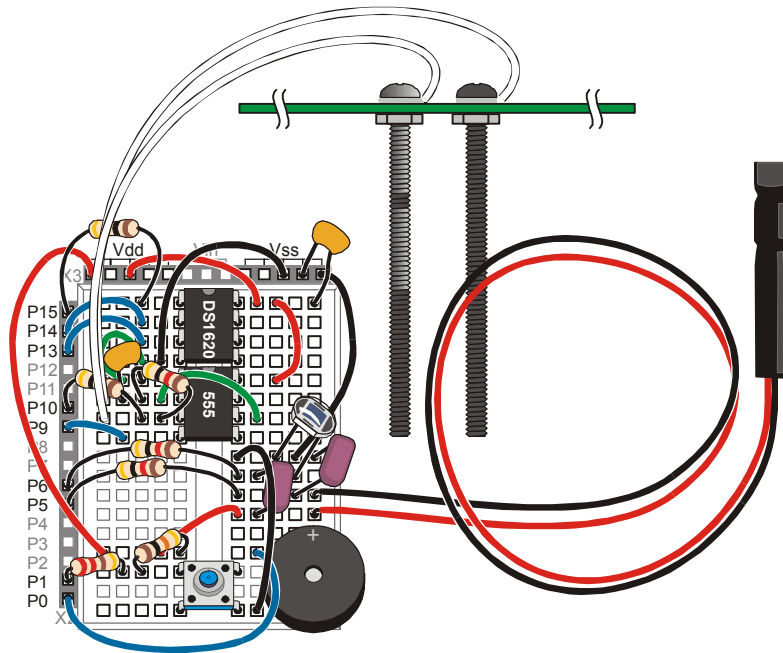

Figure 5-4
- √ Be attentive to follow the parts placement in the wiring diagram (Figure 5-4) since the wiring is getting tight!